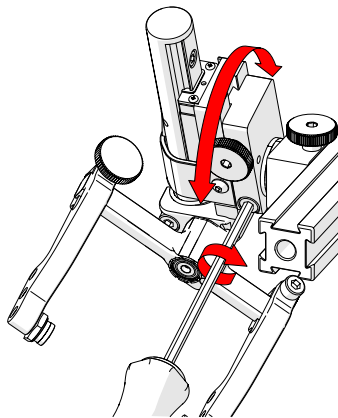

Fig. 55 - Rotate to position
4. Tighten the longitudinal adjustment screw (*Fig. 55*).